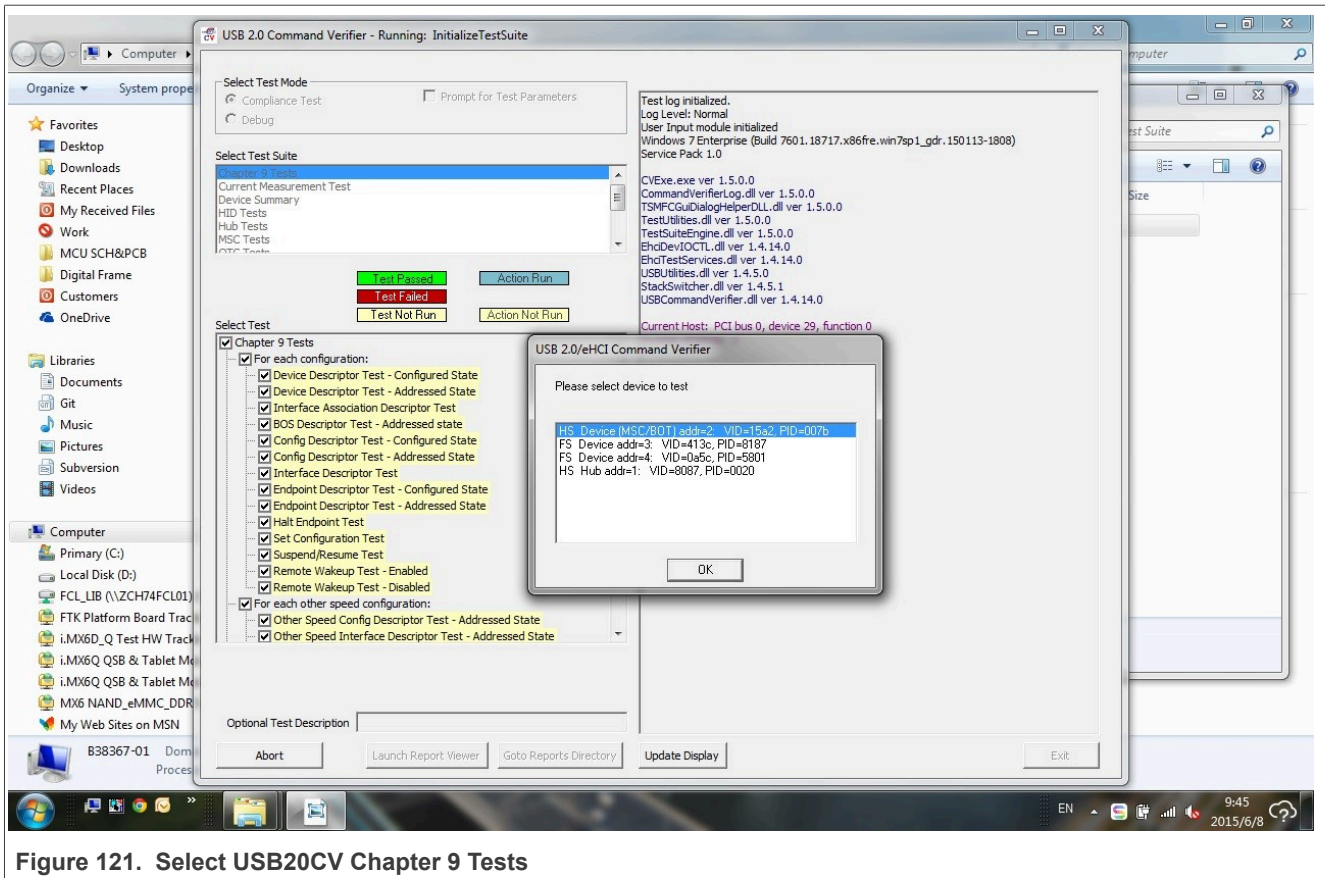

Figure 121. Select USB20CV Chapter 9 Tests
4. Select the DUT device in the list, click Ok as shown in Figure 121 below.